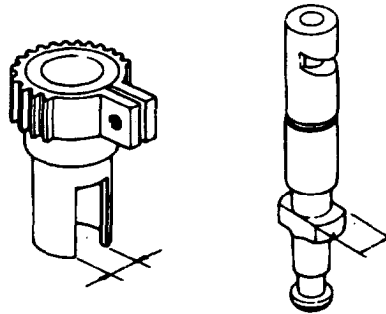

FIGURE 3-20. Checking Plunger and Barrel for Damage
- f. Check for excessive clearance between control rack (39) and bushing (45) that is press fitted into pump housing (19). To check for end play, hold pinion and measure movement of control rack. If wear on working area of control rack and bushing is excessive and play is more than 0.012 in. (0.3 mm), replace control rack.
- g. Check for excessive wear of gear teeth on control rack (39) and sleeve pinion (30). If backlash is more than 0.012 in. (0.3 mm), replace both control rack (39) and sleeve pinion (300).
- h. Check that flange on plunger (24) is not damaged, refer to FIGURE 3-20. If damaged, replace plunger and barrel as an assembly.